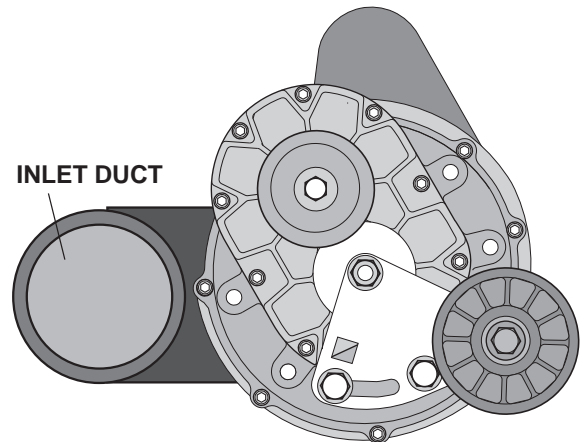

Fig. 13-a
- A. Slide the inlet duct along with the T-type clamp onto the supercharger inlet. (See Fig. 13-a.)
- C. Feed the oil drain hose around the side of the smog pump and down towards the oil pan fitting while lowering the supercharger into position. Secure the supercharger with four (4) 3/8-16 x 1" bolts and AN washers.